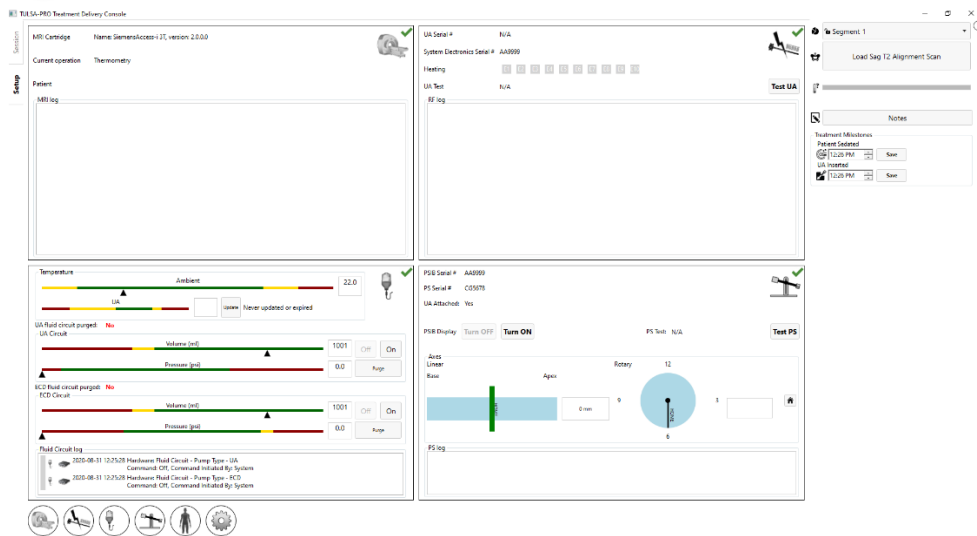

Figure 5: Setup workspace of the TDC software
2. After selecting **New Session**, you will enter the **Setup** Workspace (Figure 5) where you can ensure all equipment is functioning properly before proceeding. A green checkmark will appear in the MRI quadrant of the Setup Workspace if the TDC computer and MRI host can communicate with each other, and a patient is currently open with the TULSA-PRO MRI sequence protocol on the MRI console.